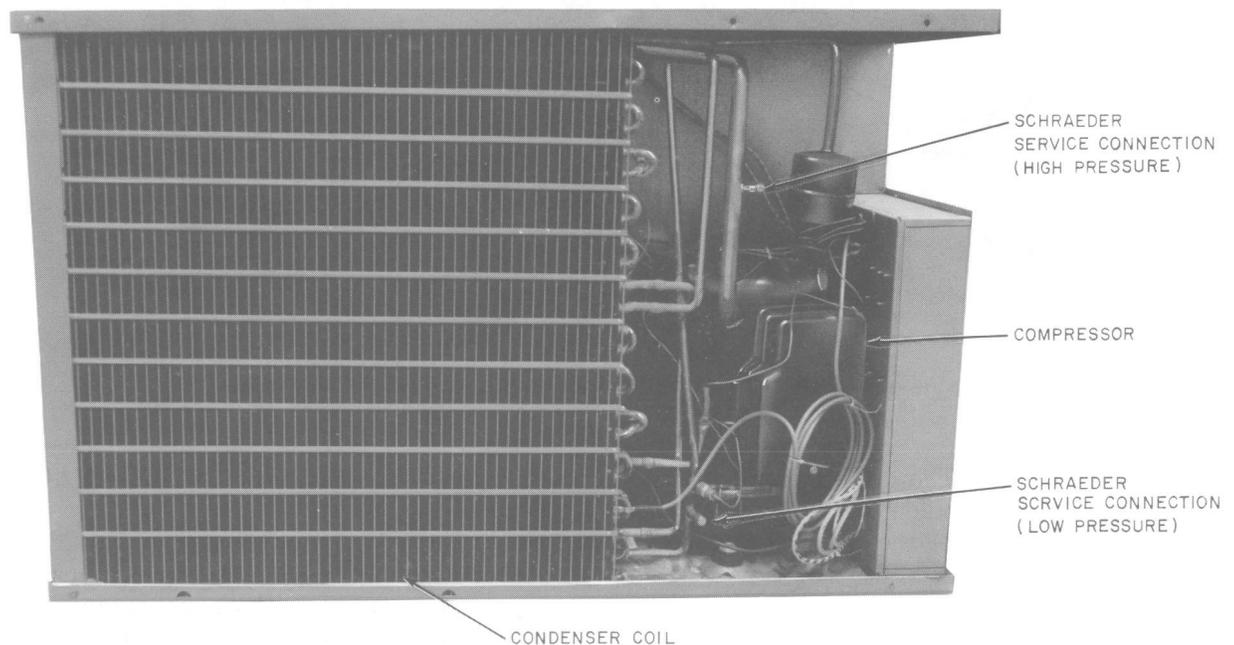

Fig. 3—Carrier Cooling Unit (Front View) Model 50MH048
connection (Fig. 3) is provided on the high and low charged sides of the refrigerant system for evacuation and charging. A correctly charged system ensures the proper relationship between the outdoor temperature, evaporator temperature, and the low pressure line temperature. ***The refrigerant recharging operation must be done by an authorized service representative.***
2.06 Compressor: The compressor (Fig. 3) contains a factory oil charge. The oil must be replaced, if for any reason it is lost. ***Since the oil recharging operation is quite specialized, it must be performed by an authorized service representative.***